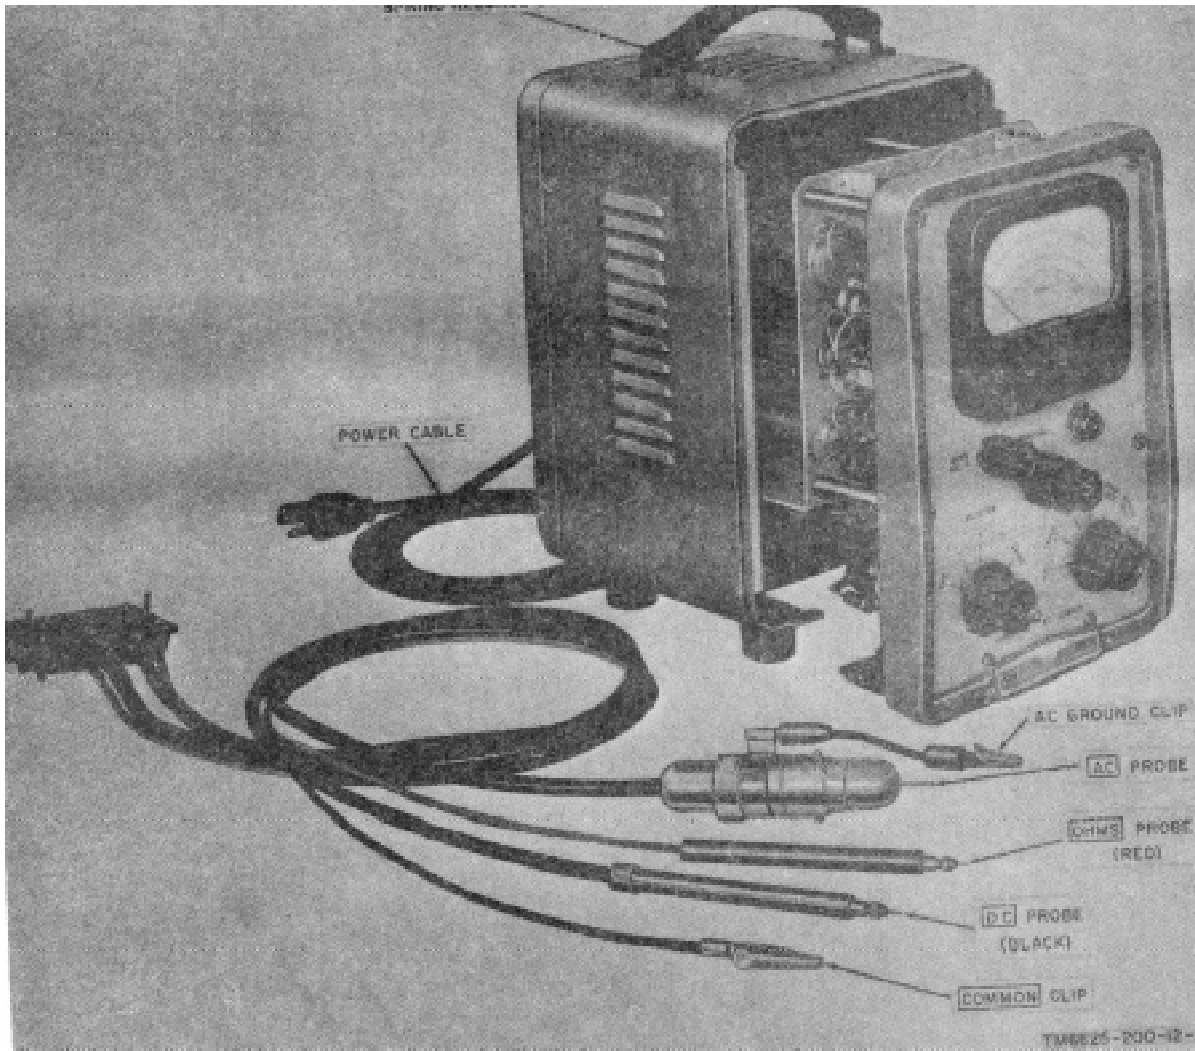
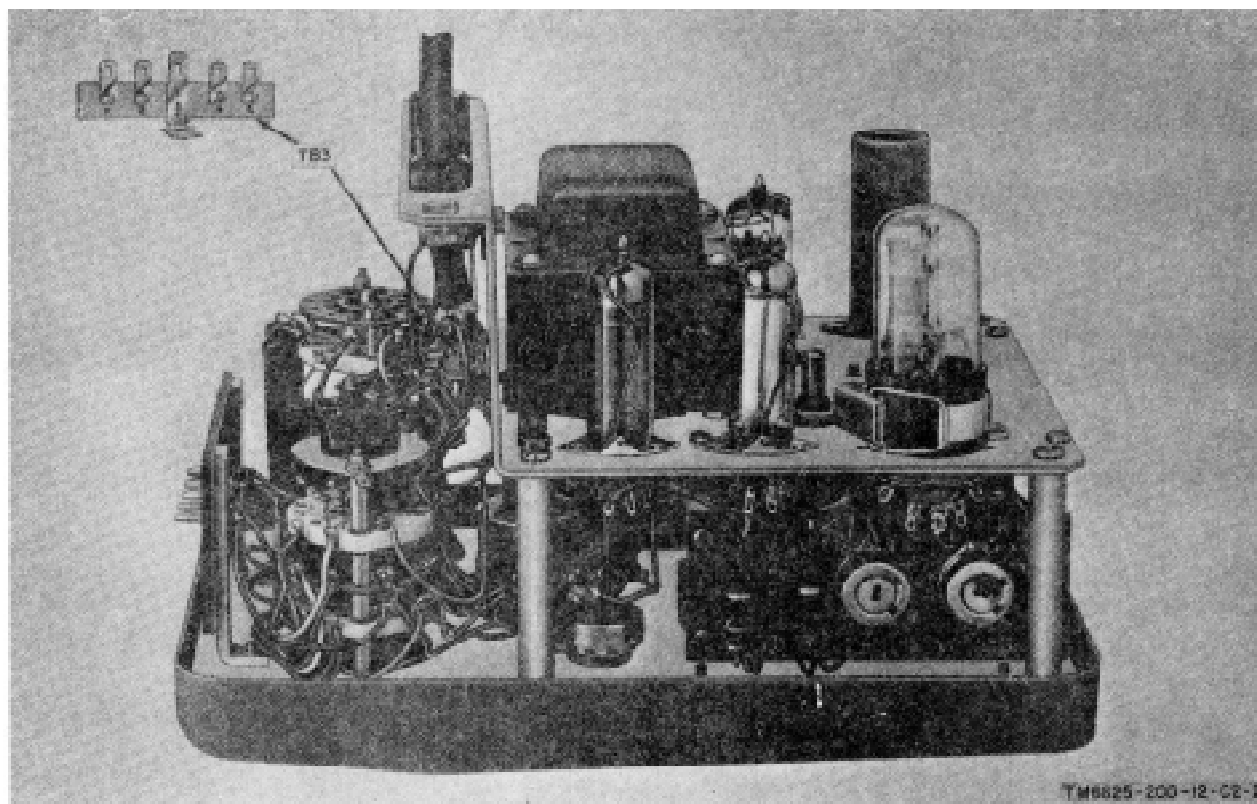

Figure 1-2. Multimeter ME-26A/U, withdrawn from cabinet, lens running spares.
Figure 3-2. Multimeter ME-26A/U chassis, side view, showing location of terminal board TB3.
(1) Remove the rear cover by pressing the spring-release button on the top rear of the case (fig. 1-2).
(2) Remove the retaining screws that hold the main chassis to the cabinet (3) Remove the chassis by gently sliding it forward out of the case.
(4) Remove the leads that connect terminals 1 to 2, and 4 to 5 of terminal board TB3 (fig. 3-2).
(5) Connect terminals 2 and 4 together.
(1) Perform the procedures given in a(1), (2), and (8) above.
(2) Remove the lead that connects terminal 2 to terminal 4 on terminal board TB3 (fig. 3-2).
(3) Connect terminal 1 to 2 and terminal 4 to 5.